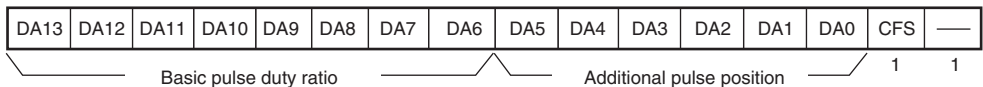

Figure 8.5 D/A Data Register Configuration when CFS = 1
An example of setting CFS to 1 (basic cycle = resolution (T) × 256) and OS to 1 (PWMX inverted output) is shown as an additional pulse. When CFS is set to 1, the duty ratio of the basic pulse is determined by the upper eight bits (DA13 to DA6) in DADR, and the position of the additional pulse is determined by the following six bits (DA5 to DA0) as shown in figure 8.5.